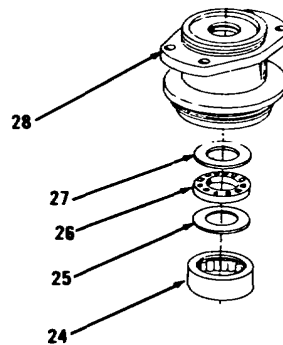

Figure 10-63.
13. Using arbor press, remove bearing (24), race (25), bearing (26) and race (27) from housing (28, Figure 10-63).